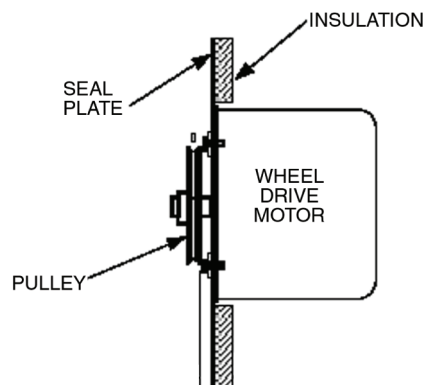

Fig. 195 — Pulley Location
6. Install the pulley as shown in Fig. 195 and secure the set screw to the drive shaft.